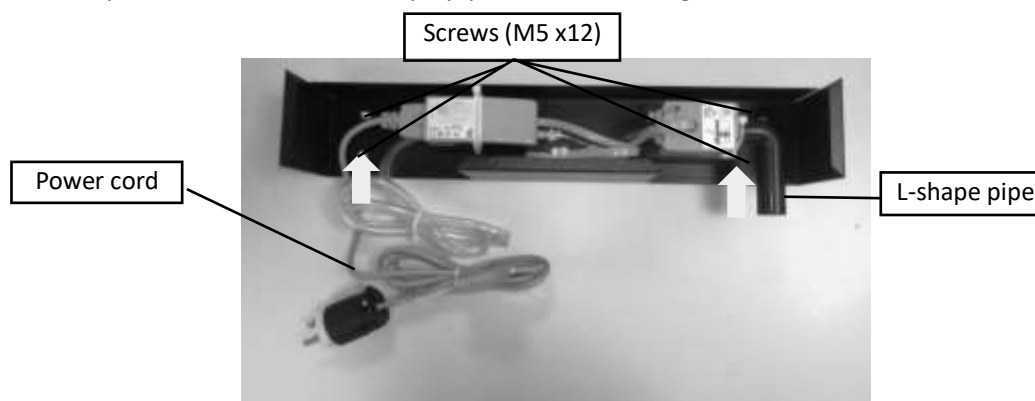

Figure 3-17 Internal structure of water pump bracket
2. Install the power cord and the L-shape pipe, as shown in Figure 3-17.
3. Loosen the four screws in Figure 3-17 about 4 turns.
6. Fix the pump bracket part 1 with tightening the 4 screws in Figure 3-17.